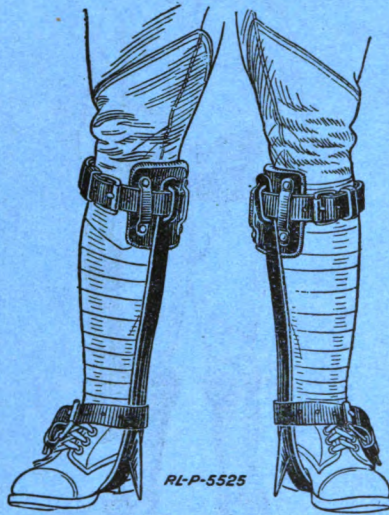

Fig. 1.—Lineman's climbers, properly adjusted
Each climber is provided with two straps, a top strap and a bottom strap; the top strap is for the purpose of holding the climber securely against the leg, while the bottom strap secures the climber near the ankle. The top strap is equipped with a leather pad which is placed between the upper end of the shank of the climber and the leg in order to prevent the climber from chafing the leg. (See Fig. 1.)
When fitting the climber on the leg the upper end of the shank of the climber should rest about 2 inches below the knuckle joint of the knee. Both straps should fit snugly around the leg, care being taken that the buckles do not rest on the shin or the instep of the foot. (See Fig. 1.)
2. *Putting on climbers.*—Fasten the climbers on the legs as shown in Fig. 1.